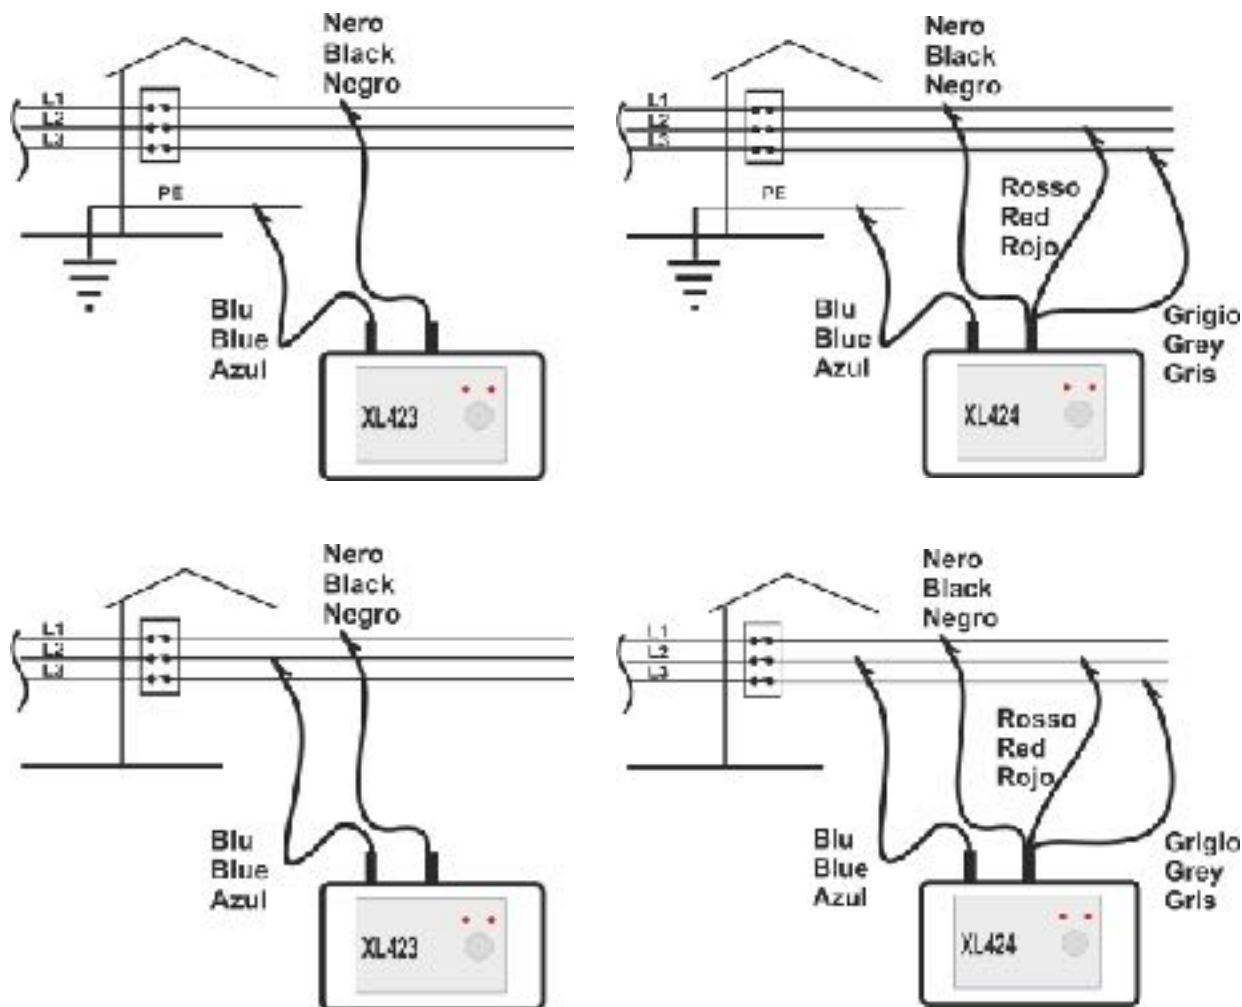

Fig. 4: Instrument's connection in three phase 3-wires plant
3. Connect alligator clips into the plant as indicated in Fig. 4.